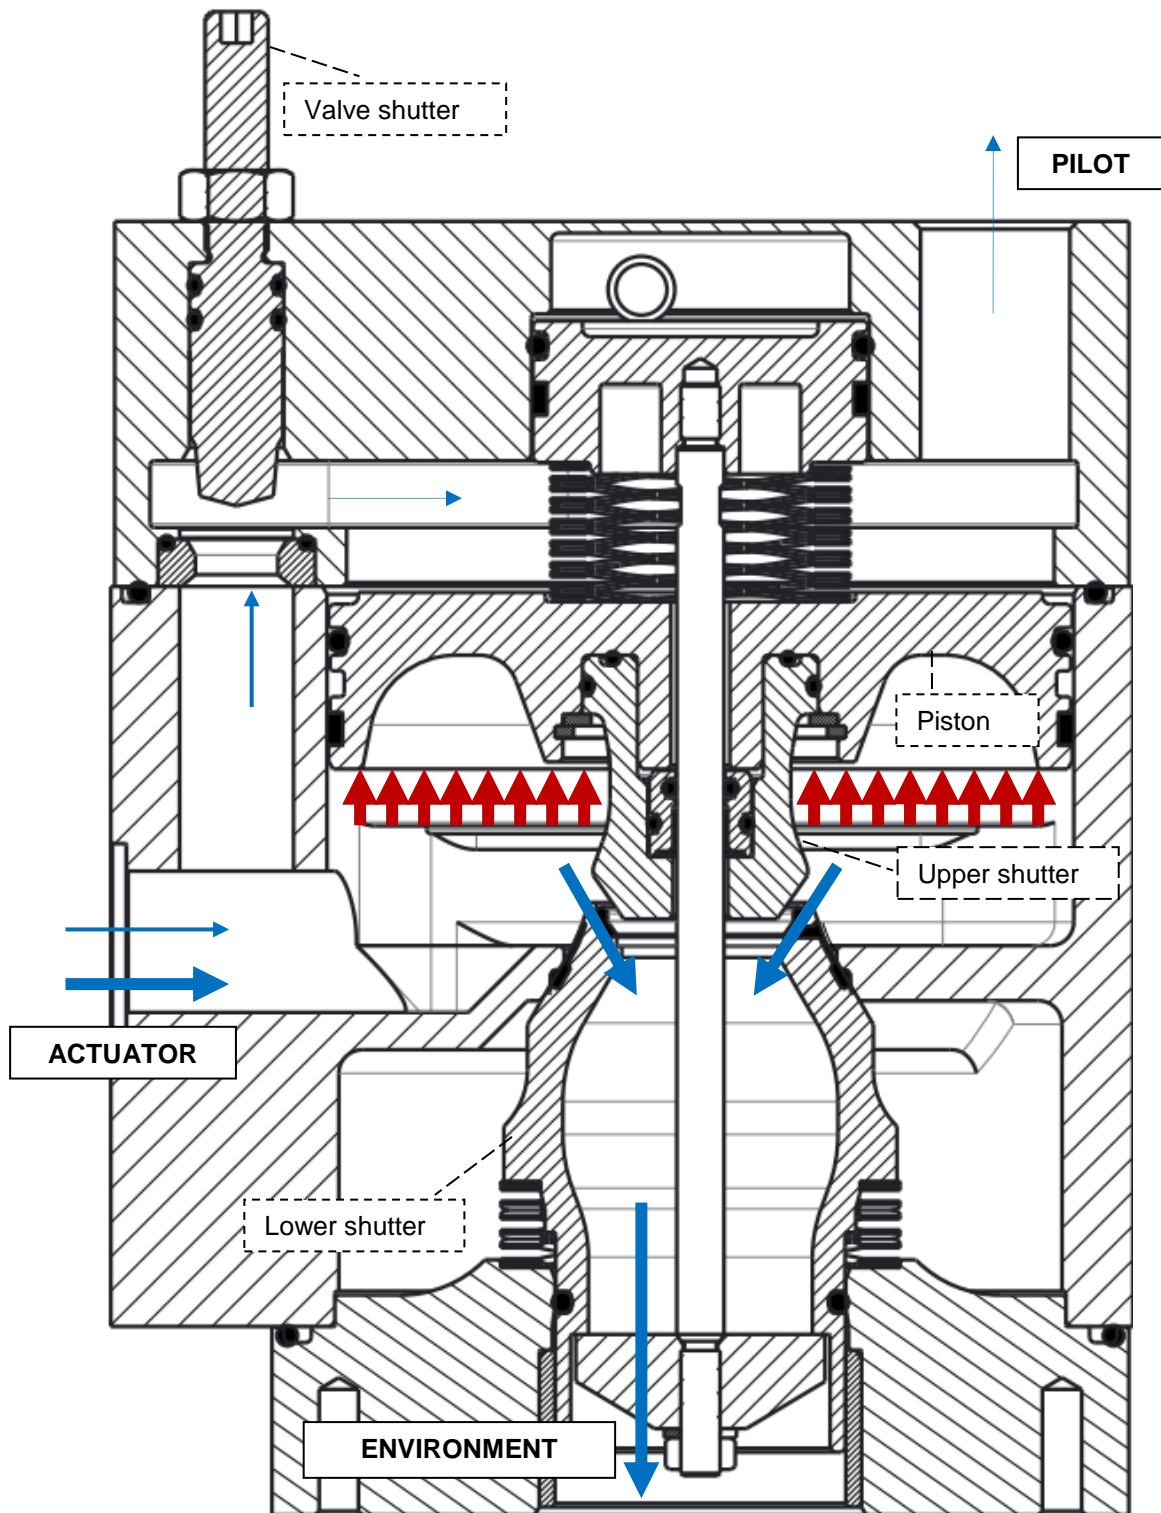

Figure 8 – discharge setup: modulating mode
- b) if the flow rate is greater than a threshold value depending on valve shutter adjustment, the valve shutter throttling generates a pressure drop between the two side of the piston and the working fluid pushes up the piston, allowing the connection between the actuator chamber and the exhaust chamber. This case is called "modulating mode" (figure 8);